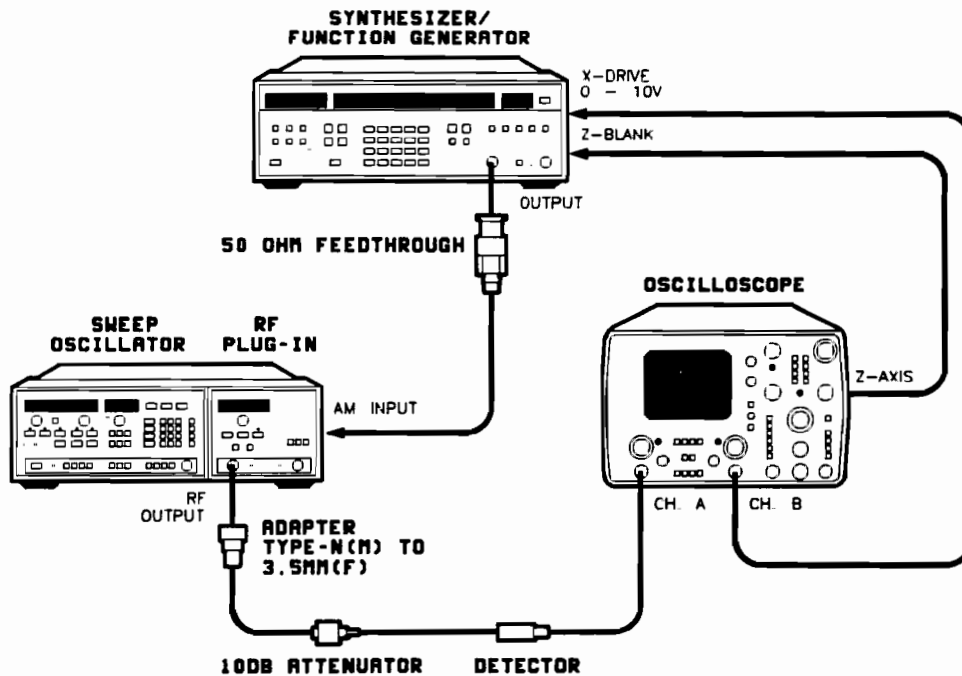

Figure 5-44. ALC Gain Adjustment Test Setup
1. Connect equipment as shown in Figure 5-44. Allow 30 minutes for warm-up